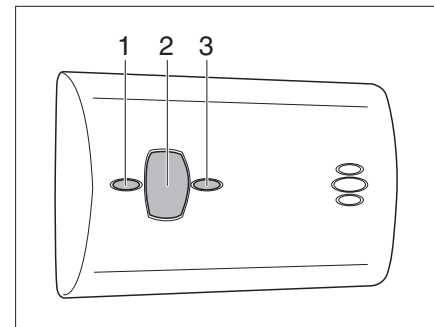

Fig. 175 Carbon Monoxide Alarm
► Press the Test/Reset button (Fig. 175,2).
The red alarm LED (Fig. 175,1) flashes in sync with the tones.
The red alarm LED (Fig. 175,1) flashes every 60 sec and an alarm tone chirps in sync.